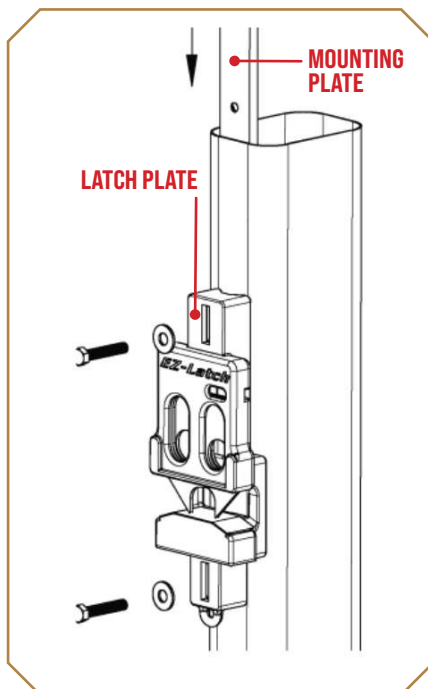

Figure 6
3. Mount the top screw and washer through the latch by putting the screw through the drilled holes and then through the mounting plate, which is positioned on the inside of the post (Figure 6). As a safety measure, you may tie a string through the hole to allow retrieval of the plate should you accidentally drop it.